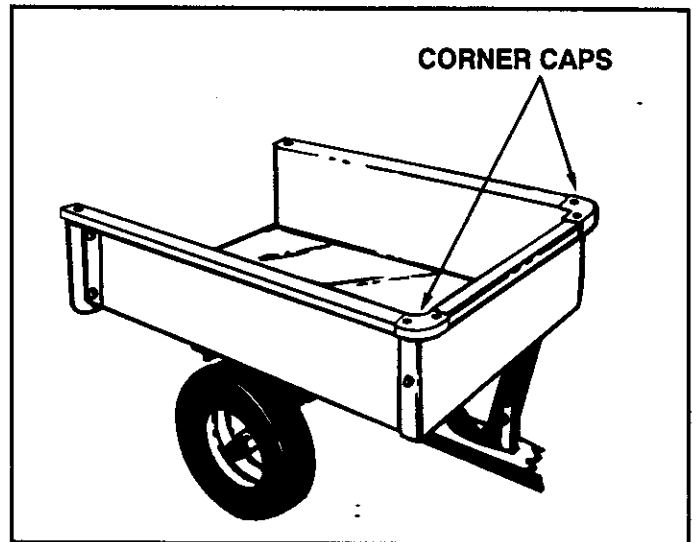

FIGURE 13
- Place a corner cap over each front corner of the cart as shown in figure 13.